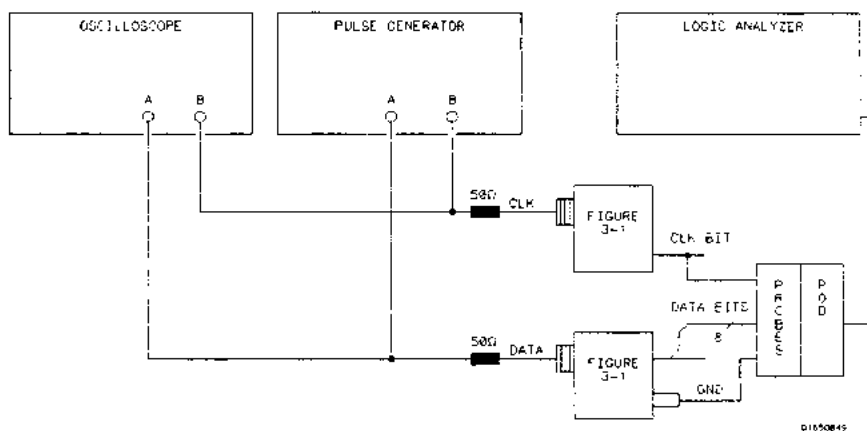

Figure 3-19. Setup for Data Test 4
1. Connect the HP 1652B/1653B and test equipment as in figure 3-19. In order to most accurately measure the amplitude of the test signals from the pulse generator, high impedance scope probes should be used to look at the signal levels at the output of the pulse generator.